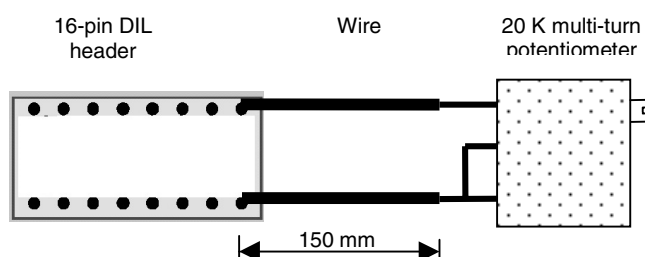

Figure 9 - 20K potentiometer on 150mm wire
- Solder either of the wires, with the potentiometer fitted to the other end, to pin 1 on the dil header, refer to figure 9 below.
- Solder the other wire, with the potentiometer fitted to the other end, to pin 16 on the dil header, refer to figure 9 below.